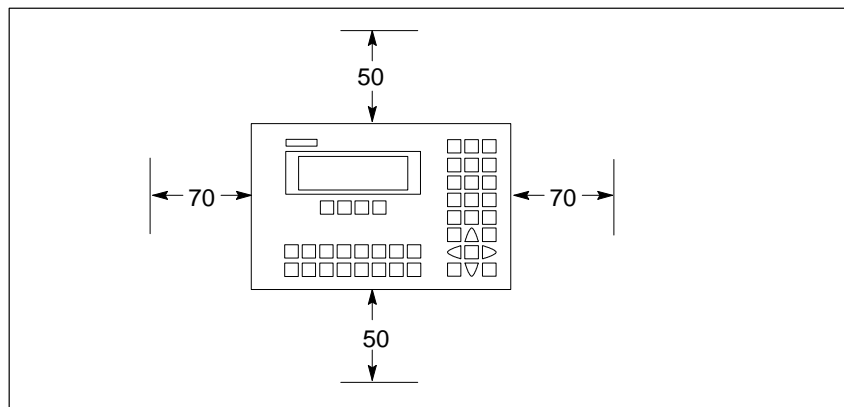

Figure 2-7 Gap Dimensions to be Adhered to when Installing the C7
- A gap of 50 to 70 mm to a housing wall must be observed on the sides of the C7 as shown in Figure 2-7.